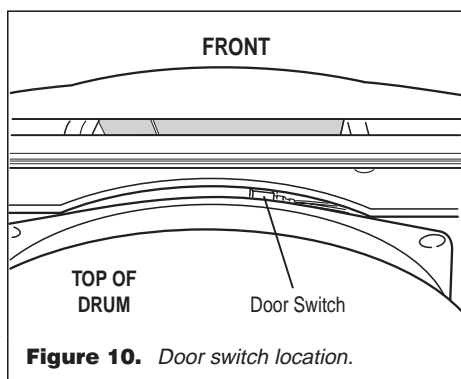

Figure 10. Door switch location.
- ➔ If any of the above conditions are not met, or if one of the dryer model codes listed above is displayed when the door is closed, check that the wires between the door switch and machine control electronics are connected. See figure 10 on page 7 for switch location, and see Accessing the Machine Control Electronics, page 7.